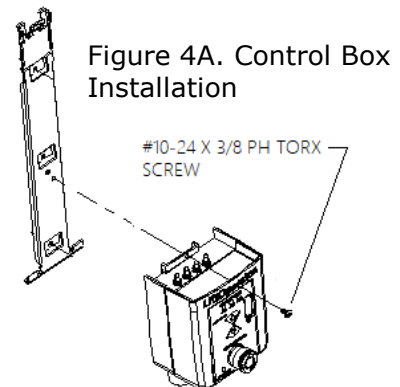

Figure 4A. Control Box Installation
8. Install the LiftOperator Control to the mounting bracket by inserting the tabs on the bottom of the mounting bracket into the slots in the lower backside of the controller. Secure the controller to the bracket by installing the #10-24 X 3/8 Torx screw and tightening with the wrench provided. **See Figure 4A.**